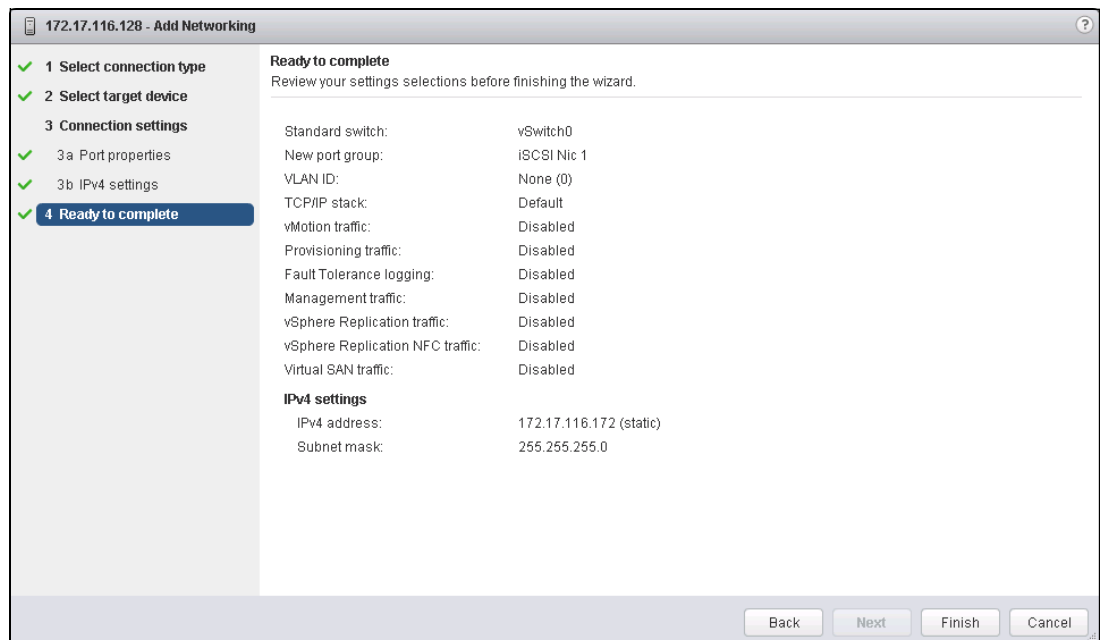

Figure 5-25 VMware: Ready to complete
7. Click **Next**, as shown in Figure 5-25.